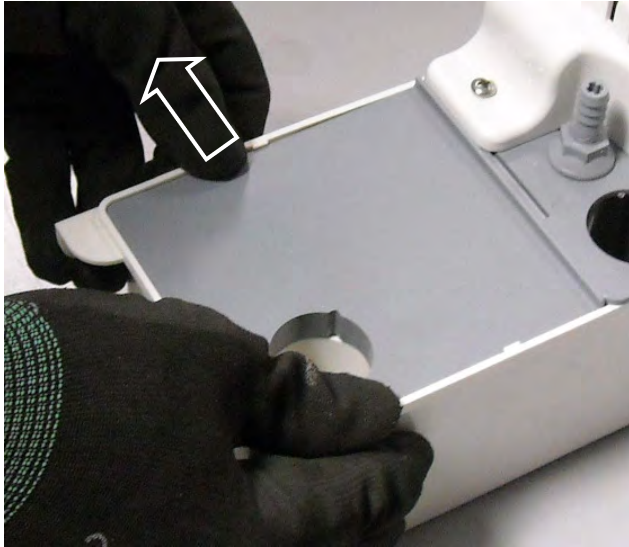

figure 9
1. Open polling with light force the side of the tank as figure 9.